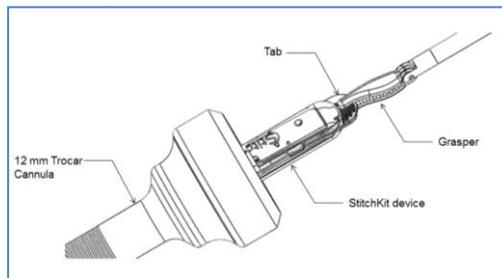

Figure 4 - Inserting the StitchKit[®] device using tab at end
- 5.1. Gently open the StitchKit[®] using the side tabs. (Figure 4)